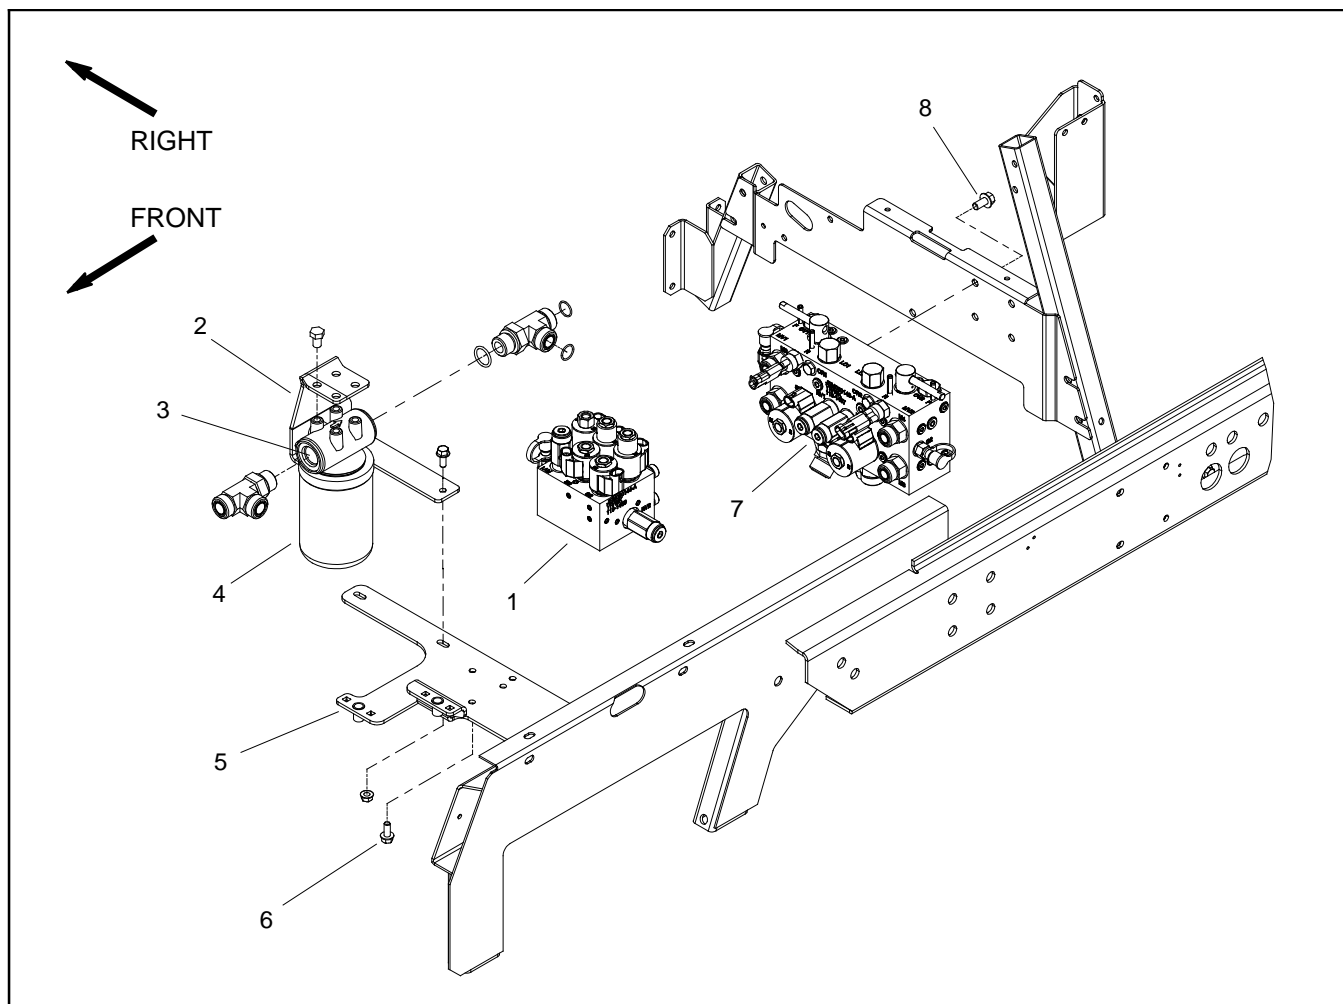

Figure 88
Removal (Fig. 88)
7. Remove hydraulic manifold from the frame using Figure 88 as guide.
Installation (Fig. 88)
2. Install hydraulic manifold to the frame using Figure 88 as guide.